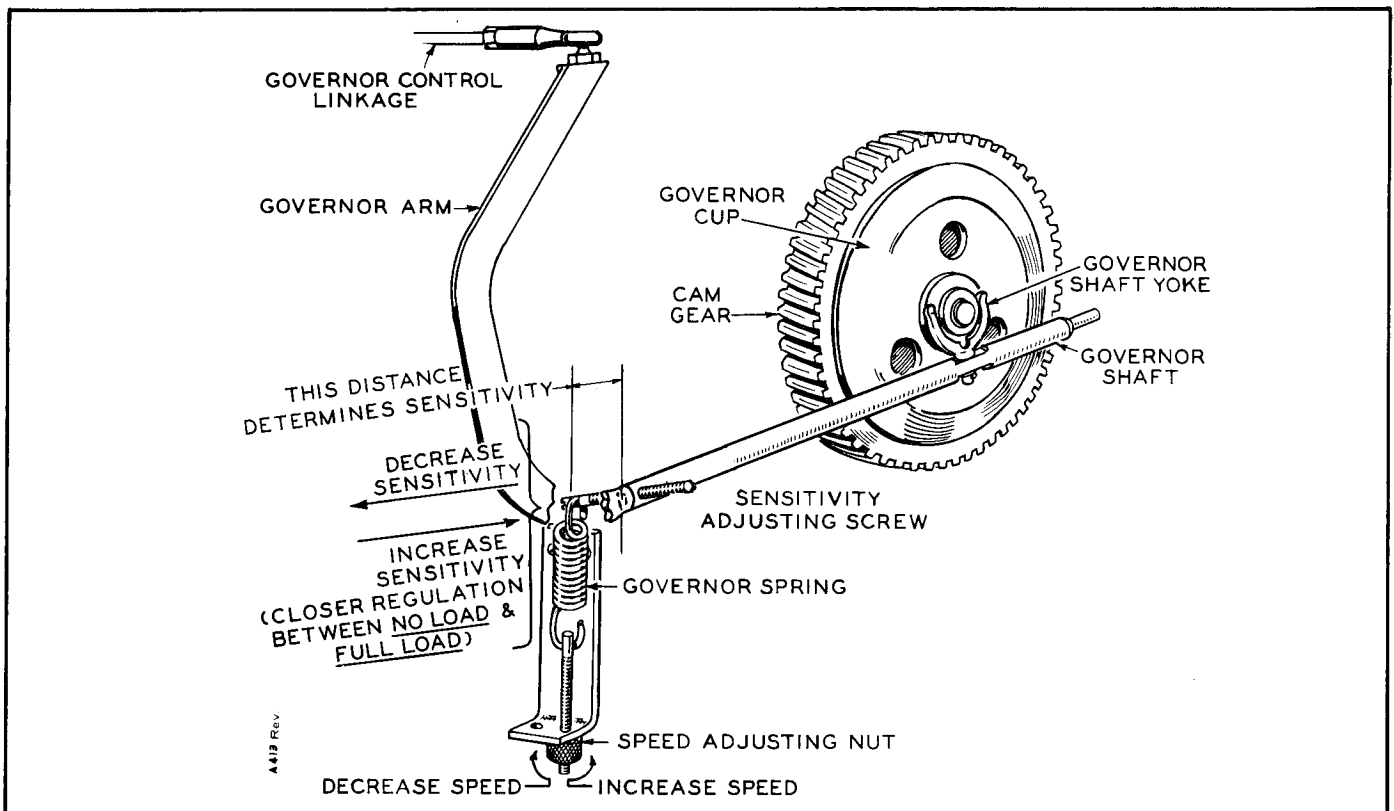

FIGURE 7. GOVERNOR ADJUSTMENTS
**Adjusting the Governor (AC Sets):** Refer to Figure 7. Connect a voltmeter across the output of the generator. With no electrical load connected, start the set and adjust the speed adjusting nut to give a voltmeter